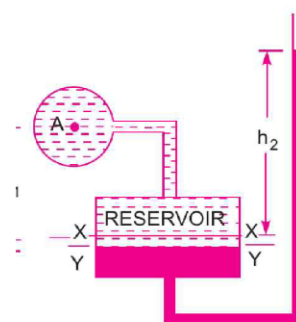

Fig. 2.15 Vertical single column manometer.
2.6.3 Single Column Manometer. Single column manometer is a modified form of a U-tube manometer in which a reservoir, having a large cross-sectional area (about 100 times) as compared to the area of the tube is connected to one of the limbs (say left limb) of the manometer as shown in Fig. 2.15. Due to large cross-sectional area of the reservoir, for any variation in pressure, the change in the liquid level in the reservoir will be very small which may be neglected and hence the pressure is given by the height of liquid in the other limb. The other limb may be vertical or inclined. Thus there are two types of single column manometer as :
Fig. 2.15 shows the vertical single column manometer. Let X-X be the datum line in the reservoir and in the right limb of the manometer, when it is not connected to the pipe. When the manometer is